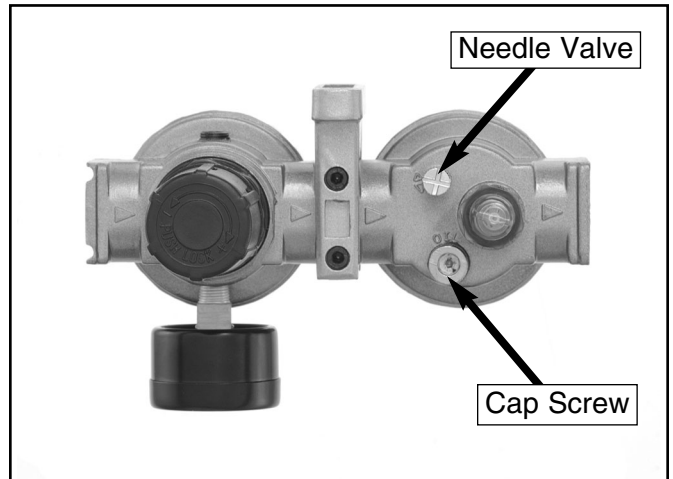

Figure 4. Lubrication adjustment points.
1. Turn the needle valve clockwise for less oil drip and counter-clockwise for more oil drip. (**Figure 4**). Note—Refer to the tool manufacturer for oil drip requirements.
3. Before filling the oil reserve, release all air pressure in the tank and lines, then remove the cap screw above the oil reservoir shown in **Figure 4**.